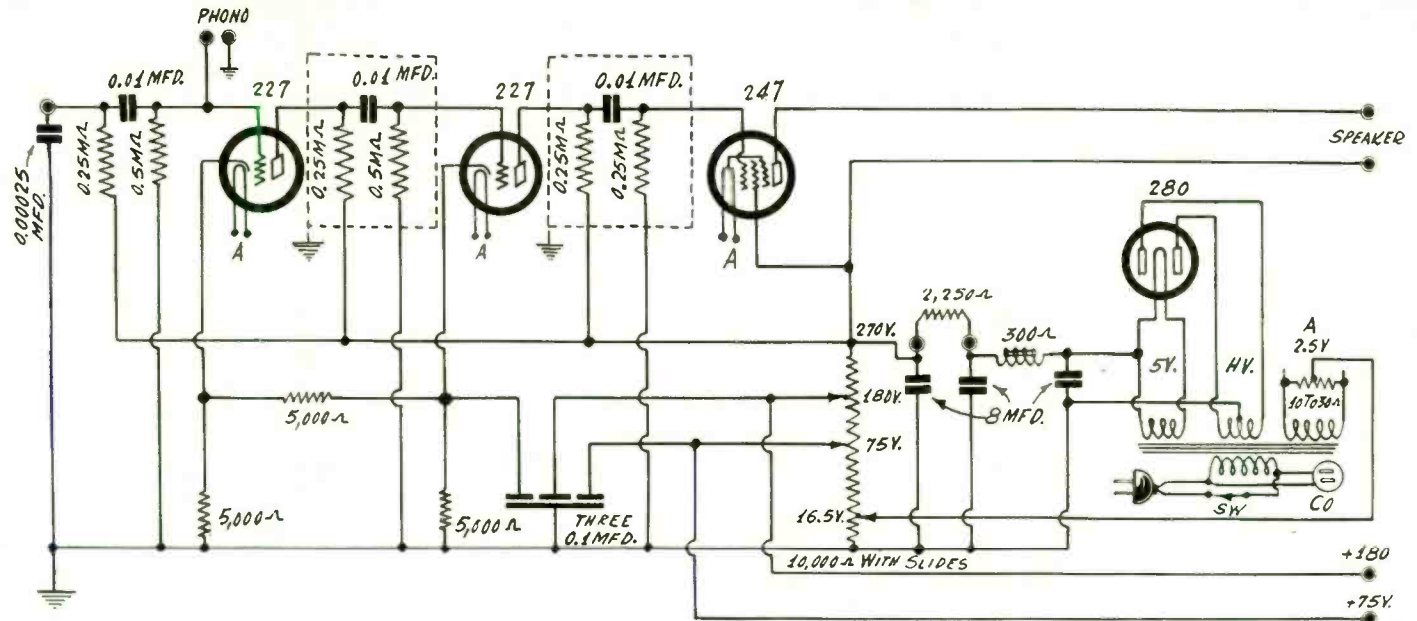

FIG. 1
**C**OMplete stability in a three stage resistance coupled audio amplifier is attained by the method diagrammed in Fig. 1, which also makes it unnecessary to use large bypass capacities.
Many persons now have three stage resistance coupled amplifiers to which the remedy may be applied according to Fig. 1, by omitting the bypass condensers across biasing resistors, introducing 227 tubes if others are used, and a single bypass condenser of 0.1 mfd. or less used from first audio cathode to grounded B minus.
Though this difference would be small it would be ratable in establishing a solution, hence Fig. 1 is shown as a definitive solution for one particular case.